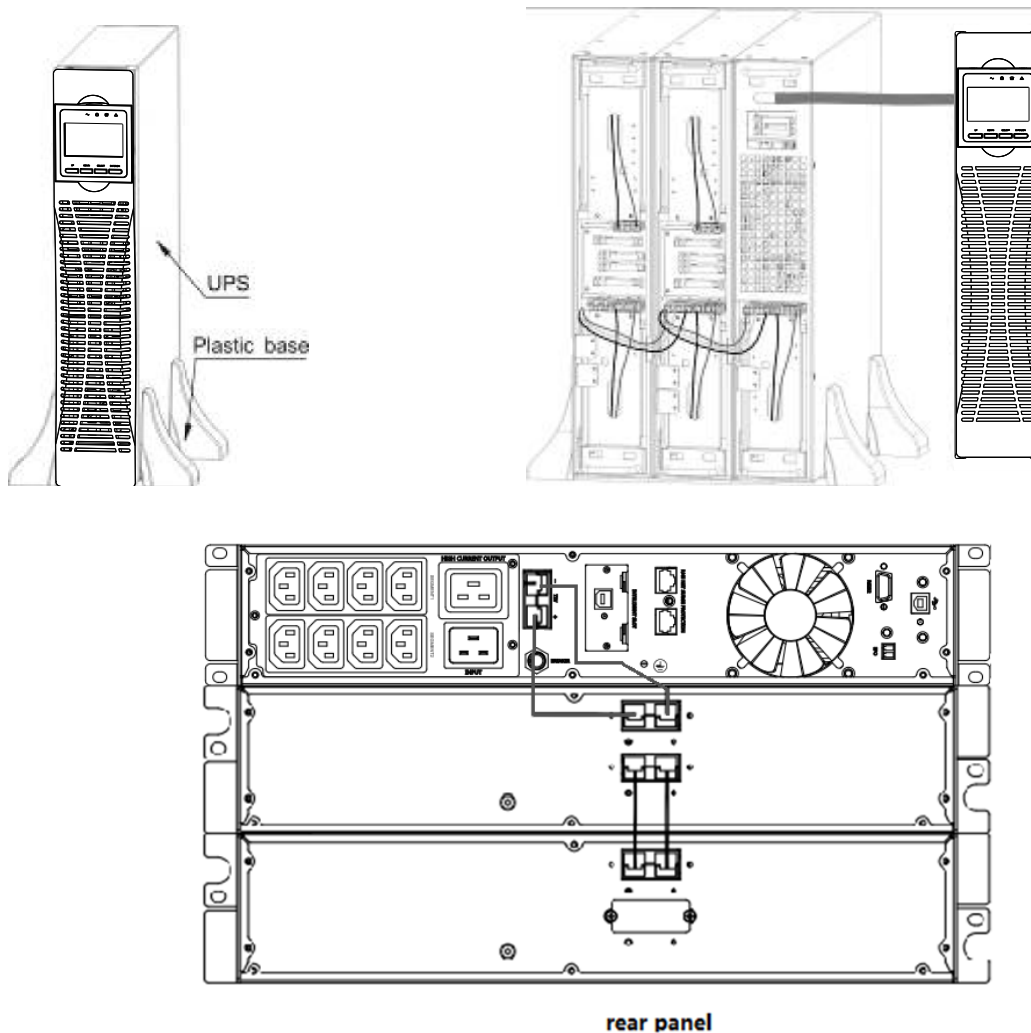

Figure 14 The installation for UPS and battery boxes
- The installation between UPS and EBPS can be referred to Fig.14